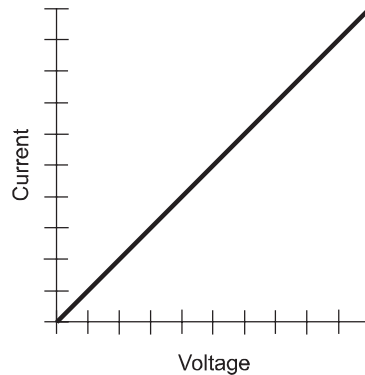

Fig. Test1-1. Illustration for Part One Test Questions 3 and 4.
3. Figure Test1-1 is a graph of
4. From Fig. Test1-1, it is apparent that for this particular component,